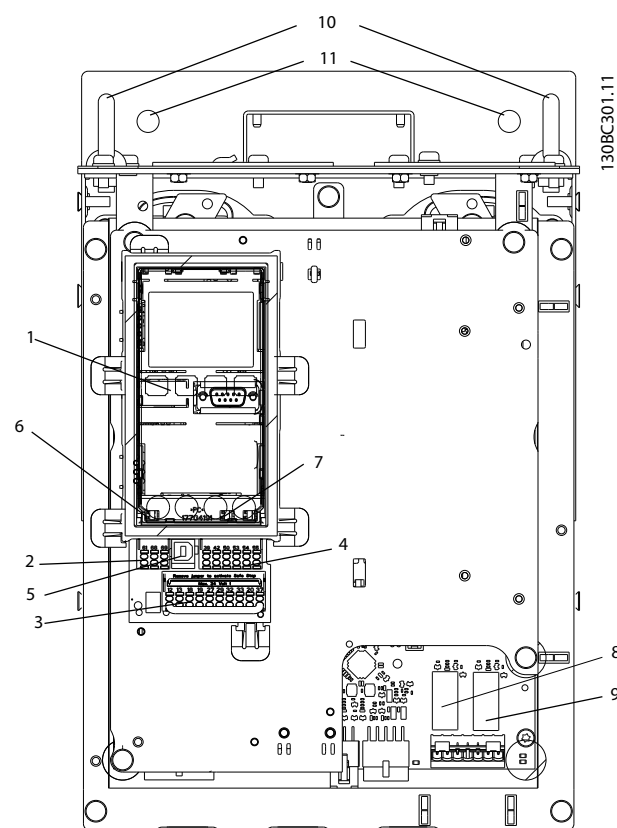

Figure 6.61 Location of Relay Plugs, Pos. 8 and 9
- Remove all relay plugs marked "RELAY". See Figure 6.61.